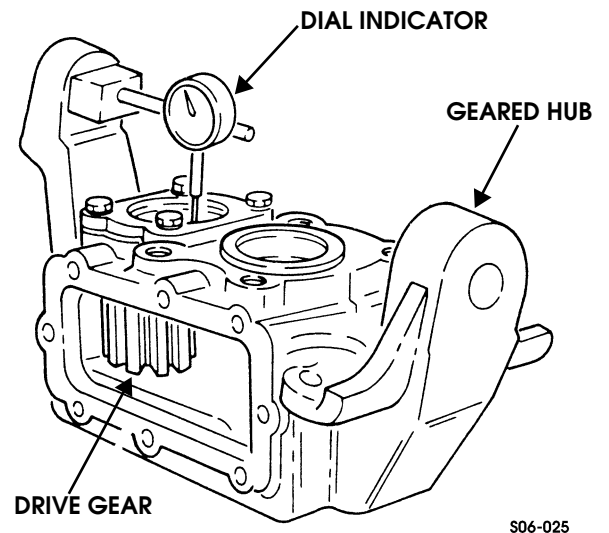

Figure 9-32: Dial Indicator Positioning
6. Mount dial indicator on geared hub and index indicator to register on end of drive gear (Figure 9-32).